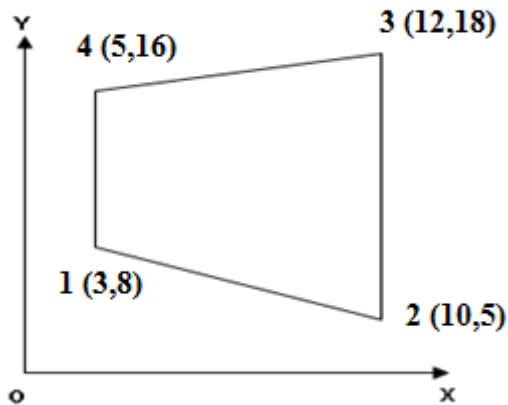

Figure 3
- 16 For the isoparametric, quadrilateral element shown in figure3, determine the Jacobian matrix at $\xi = \frac{1}{4}$ and $\eta = \frac{1}{4}$.